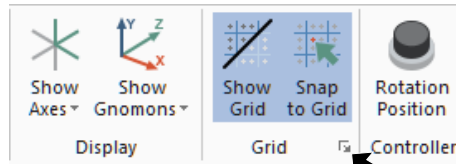

Fig. 5
Step 2. Click the **Dialog Box Launcher** (Alt-G), **Fig. 5**.